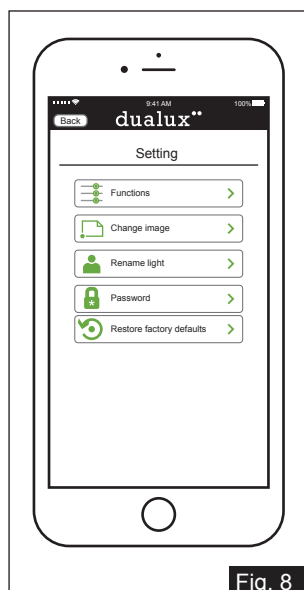

Fig. 8
2. For best performance, install fixture at least 8 feet above the ground. At such a height, the fixture will provide a detection distance of up to 70 feet at 77 degrees Fahrenheit. (See Fig.8)
9. Click Fig.8 “Change image”. And click “take photo” to take a photo.
11. Click fig.8 "Rename light" to enter a name for the light, then click "Save".
12. Click fig.8 “Password” to set a password for bluetooth device so that others need password to connect this lamp.
13. Click fig.8 “Restore factory defaults” to restore your settings (only the light name and password) to the original conditions.